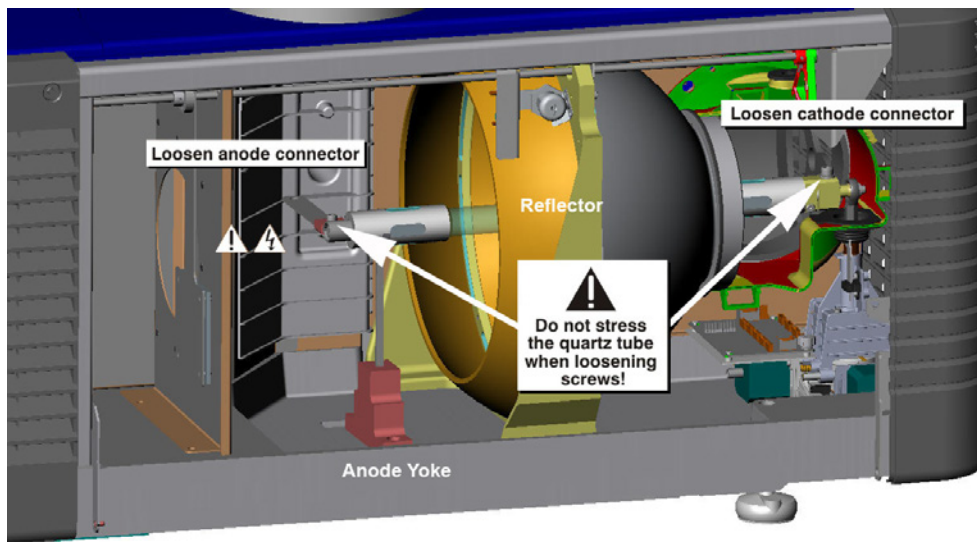

Figure 6-1 Removing the Lamp
5. Loosen set screws from the negative cathode and the positive anode lamp connectors. Make sure to apply minimal torque and DO NOT STRESS the quartz tube. (Figure 6-1).